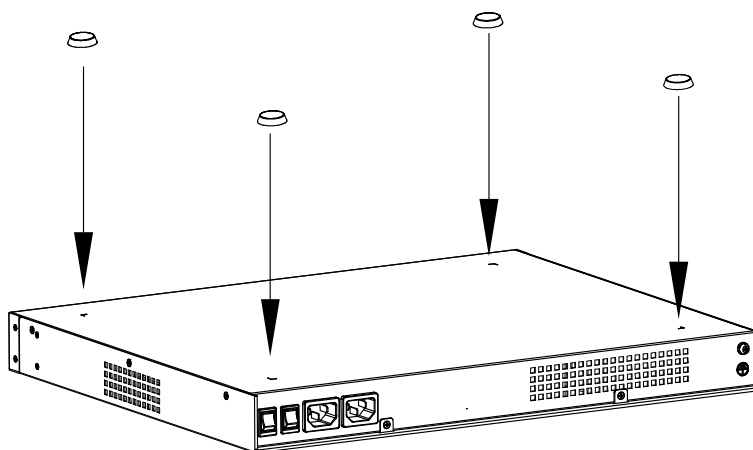

Figure 3-1: Installing the Rubber Pads
Step 2: Press the sticky side of the pad to the right-angle die-pressed mark on the bottom panel of the chassis. See Figure 3-1.